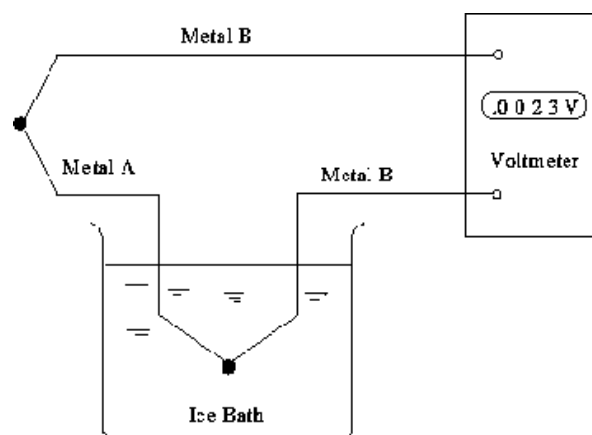

Figure 1 Measuring the EMF of a Thermocouple
When a pair of electrical conductors (metals) are joined together, a thermal emf is generated when the junctions are at different temperatures. This phenomenon is known as the Seebeck effect. Such a device is called a thermocouple. The resultant emf developed by the thermocouple is in the millivolt range when the temperature difference between the junctions is  $\sim 100$   $^{\circ}\text{C}$ . To determine the emf of a thermocouple as a function of the temperature, one junction is maintained at some constant reference temperature, such as ice-water mixture at a temperature of  $0$   $^{\circ}\text{C}$ . The thermal emf, which can be measured by a digital voltmeter as shown in Figure 1, is proportional to the temperature difference between the two junctions. To calibrate such thermocouple the temperature of the second junction can be varied using a constant temperature bath and the emf recorded as a function of the temperature difference between the two nodes. The output voltage,  $E$ , of a simple thermocouple circuit is usually written in the form,
3.1 ) Set up the experiment as shown in Fig. 1